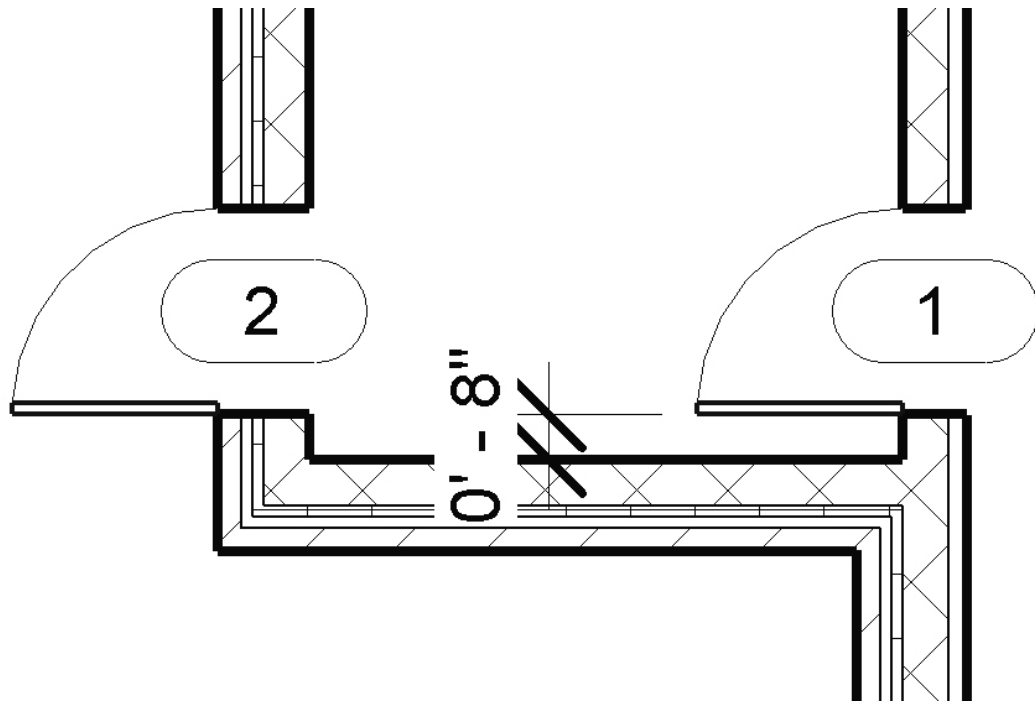

FIGURE 3-5.4 Doors in West stair shaft
8. Insert two doors in the West stair shaft as shown in Figure 3-5.4. Remember you are inserting a door into a masonry wall so your door position and size need to work with coursing, thus the 8" dimension (however, you would also need to include the door frame into the equation).